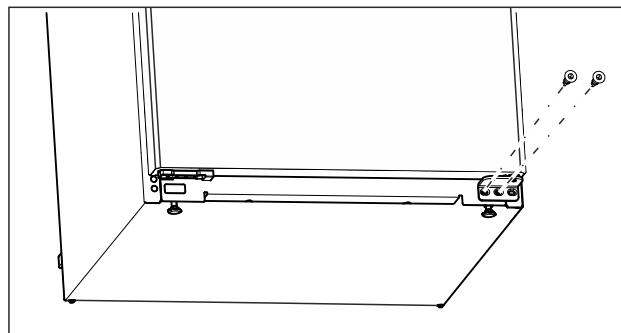

Fig. 13
- Unscrew the middle screw on the lower swap bearing block with a Torx 20 screwdriver. (see Fig. 13)
- Unscrew the inner screw on the lower swap bearing block with a Torx 20 screwdriver. (see Fig. 13)